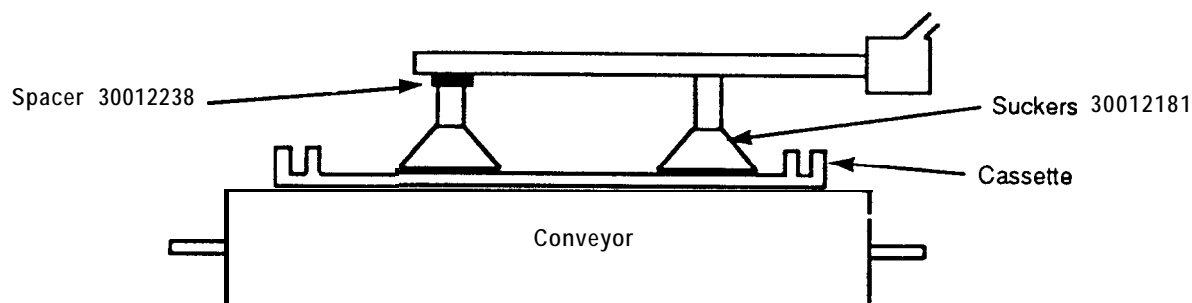

Figure 1 A
- 1 To begin the adjustment, position the PUSH ROD END in the centre of the slot in the CAM FOLLOWER, (figure 1 C).